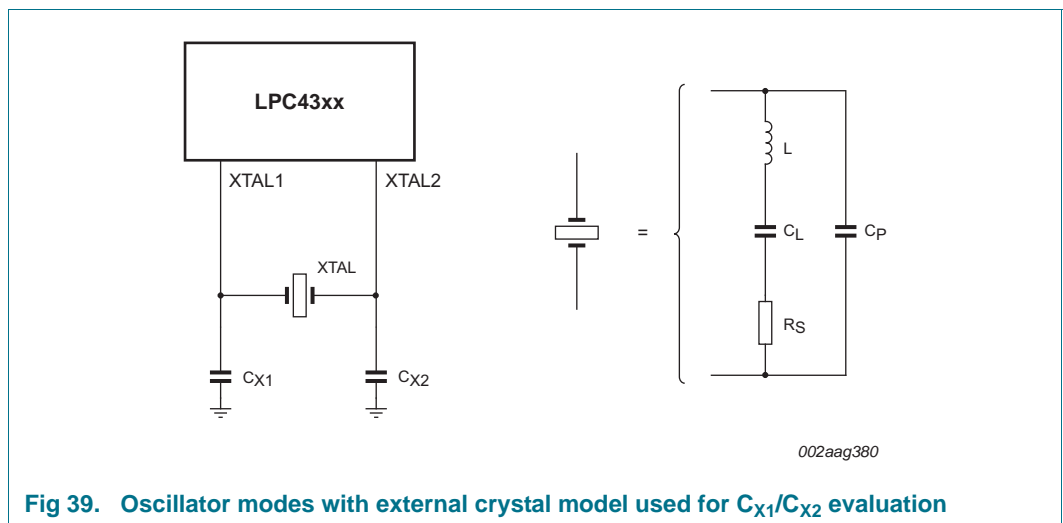

Fig 39. Oscillator modes with external crystal model used for C_{X1}/C_{X2} evaluation
- External components and models used in oscillation mode are shown in Figure 39, and in Table 37 and Table 38. Since the feedback resistance is integrated on chip, only a crystal and the capacitances C_{X1} and C_{X2} need to be connected externally in case of fundamental mode oscillation (L , C_L and R_s represent the fundamental frequency). Capacitance C_P in Figure 39 represents the parallel package capacitance and must not be larger than 7 pF. Parameters F_c , C_L , R_s and C_P are supplied by the crystal manufacturer.